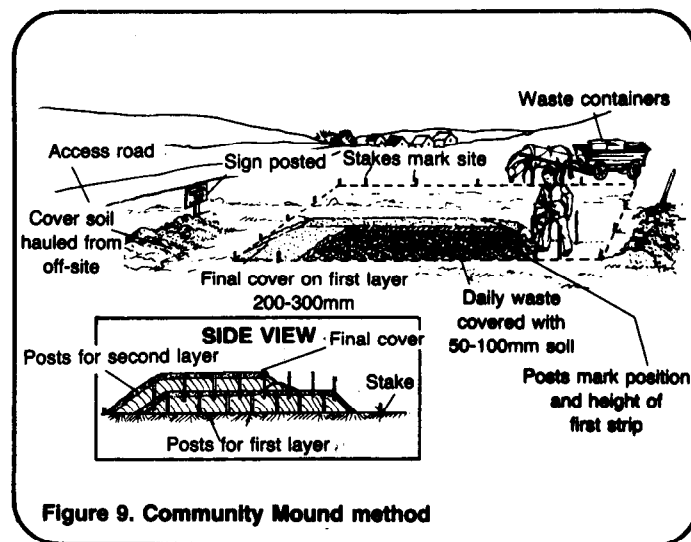

Figure 9. Community Mound method
1. Using the location map, design drawings and measuring tape, locate the site and mark the boundaries with wooden stakes. See Figure 9.
4. Set posts, poles, or long sticks to mark the boundaries and height of the first strip. See Figure 9.
8. As the first layer reaches its designed height, cover with 200-300mm of soil if the mound is to be multi-layered. If the mound is to be single-layered, cover with at least 300mm of soil or composted material. See Figure 9.